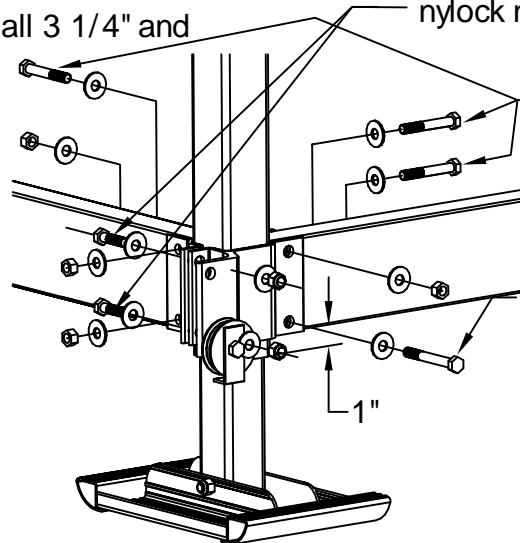

Fig. 2B
- ❑ The 96" side frame beams are attached using (8) 1/2" x 3 1/4" bolts, (16) flat washers and (8) aluminum nylock nuts on each beam. See fig. 2B.